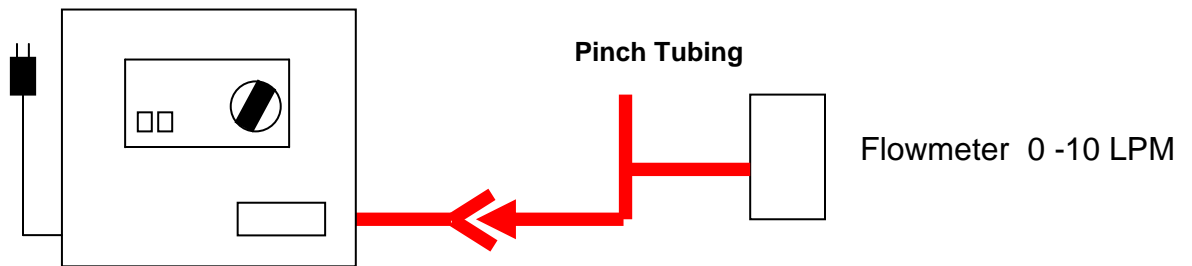

FIGURE 5
- 8.3.3 Set mode select switch to the float/static mode. Connect control unit to the flow meter as shown in FIGURE 5 (flow meter connected to top port). Wait a minimum of 6 minutes. Record the flow rate. Flow must exceed 2 LPM. Un-used tubing connection is to be plugged.